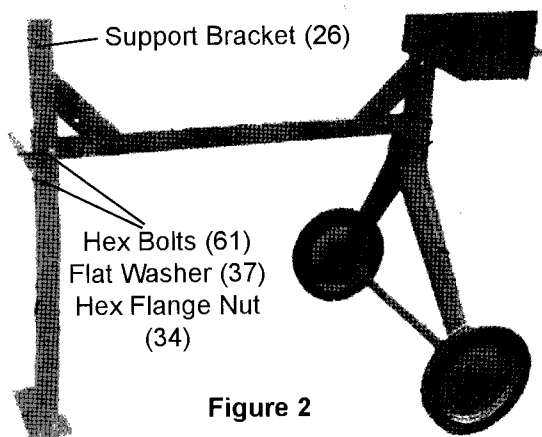

Figure 2
2. Fasten together using Hex Bolts (61), Flat Washer (37) and Hex Flange Nut (34). Tighten with a wrench (not included) until secure.
3. Insert Support Bracket (26) onto Stand so that bolt holes line up. See Figure 2.